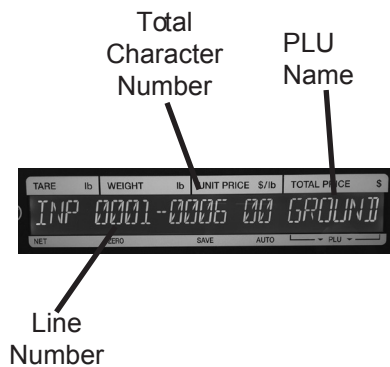

Figure 10-2
9. Use the Scale Set-Up Keysheet to key in the PLU name (24 character maximum per line, 2 line maximum, e.g. GROUND BEEF, BANANAS). See Figure 10-2.